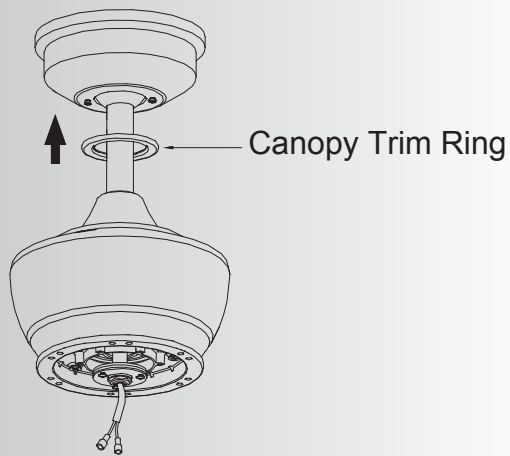

Fig. 16
**Step 3.** Securely attach and tighten the canopy trim ring over the shoulder screws in the mounting bracket utilizing the keyslot twist-lock feature. (Fig. 16)